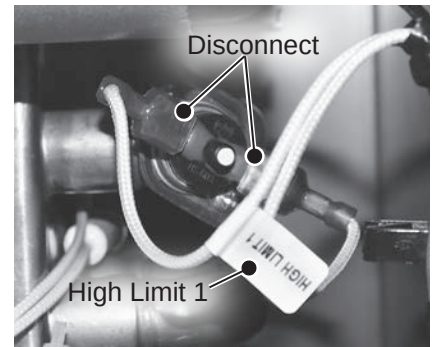

Figure 30 - Disconnecting high limit 1
- 6 Locate the high limit 1 wiring harness and disconnect it. See Figure 30.